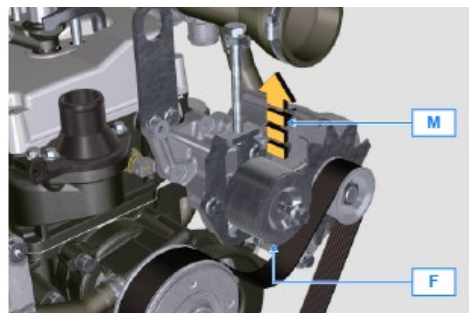

Fig 11.9
1. Loosen the nut **B** and manually tighten the screw **C** until it just touches the pulley pin **D** (Fig. 11.9).